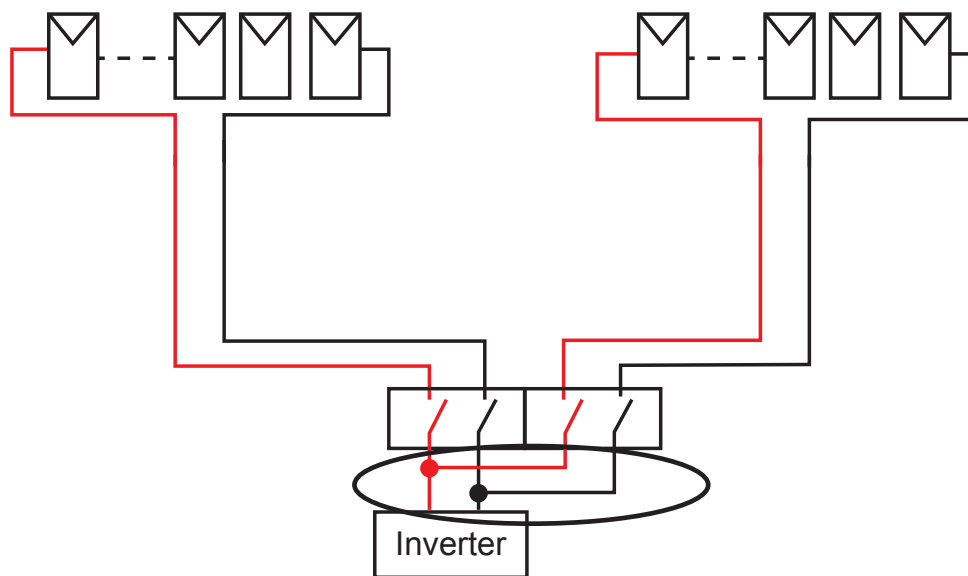

Figure 22: Paralleling strings on inverter/MPPT side of PV array disconnecter devices
- Where strings are paralleled at the PV inverter or MPPT, it is recommended that this occurs on the PV inverter or MPPT side of the disconnection device or in the PV inverter/MMPT itself as shown in Figure 22.
Note: In Figure 22 the Inverter could also be an MPPT.